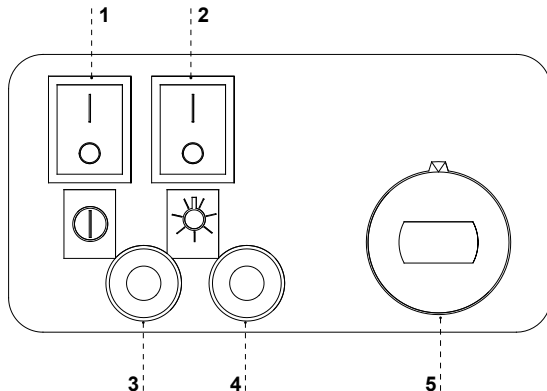

Fig.4 Control panel
- Turn on the main switch Fig.4/1 (p.11), which will cause the start up of the heated device and lighting up red or green light.
- Use the control knob Fig.4/5 (p.11) to set the desired temperature inside the unit.
- Connect lighting switch Fig.4/2 (p.11)
Heated device is equipped with mechanical temperature regulator. Set the desired water temperature inside the device Fig.4/5 (p.11) with the help of regulating knob by turning it and setting in proper position. Turning the knob clockwise increases the set temperature, and turning it in the opposite direction causes its decrease. Turning the knob left, until it reaches the final position turns off the heaters, despite the fact that the power supply is activated.
Signalling control diodes inform about proper water level in the reservoir Fig.4/3; 4 (p.11). **Red diode signal signifies lack of water or low water level (this is not an alarm signal!). If the device operates without humidifying the red diode shall be illuminated all the time. When the device operates with humidifying the green diode informing about the proper water level should be illuminated.** Change of lighting signals to red means that the water level is low and more water should be poured into the reservoir.
The lighting is turned on/off by the switch on control panel Fig.4/2 (p.11)